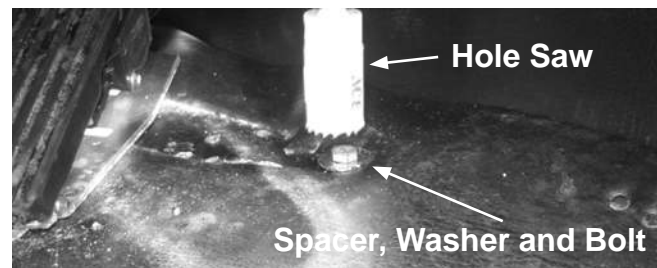

Figure 18-3
2. Prepare each of the bracket mounting holes in the floor as set forth below in items 3-8 (see Figure 18-3).
6. Using a hole saw, carefully trim away the floor mat around the clamped washer and spacer (see Figure 18-3).